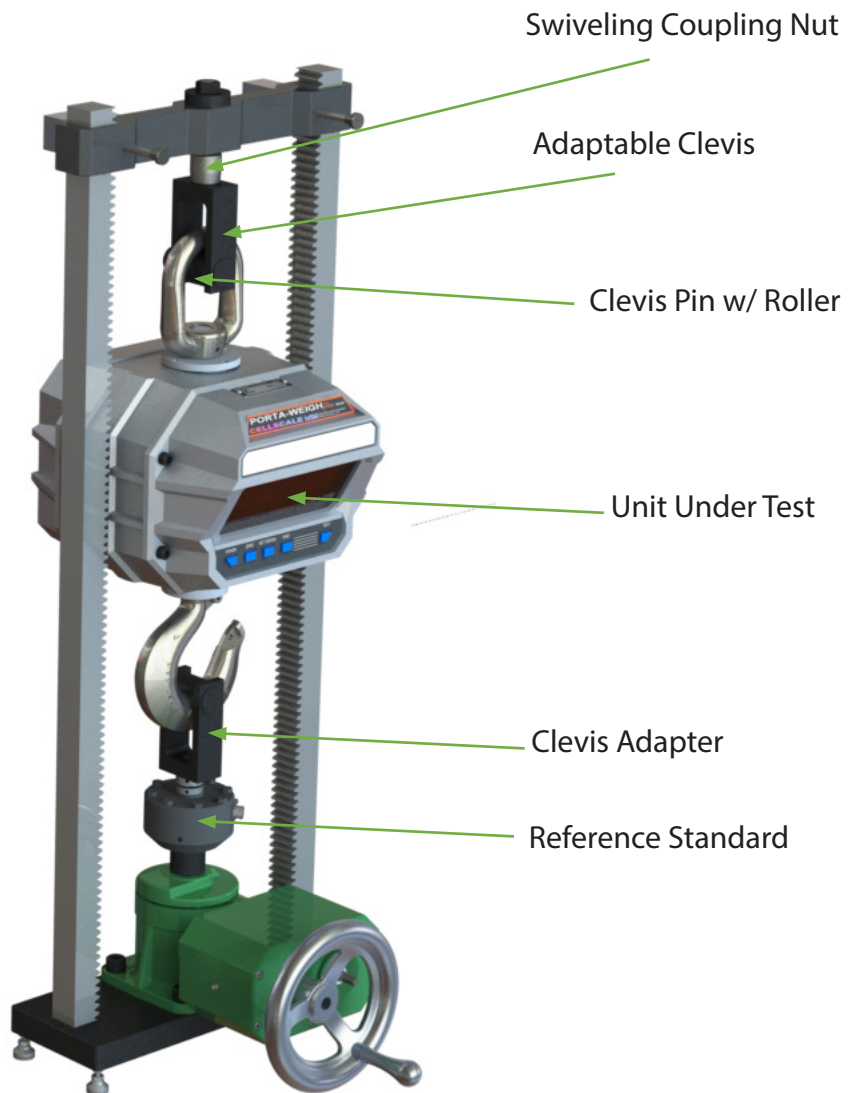

Figure 7: Crane Scale Calibration Setup Using Morehouse 12K lbf Adaptable Clevis Kit
- The machine is supplied with four bench securing mounts (item 21 in Fig 7). These slide over the leveling feet. Customers must have an engineer review, specify and select the bolts / lag screws to secure the machine. Morehouse cannot provide recommendations due to the variety of customer tables.
To order parts and accessories for your Benchtop Calibrating Machine, contact the Morehouse Sales team. Figure 7 and Table 2 demonstrate the parts included in a Benchtop Calibrating Machine Model BCM-10MD-1.